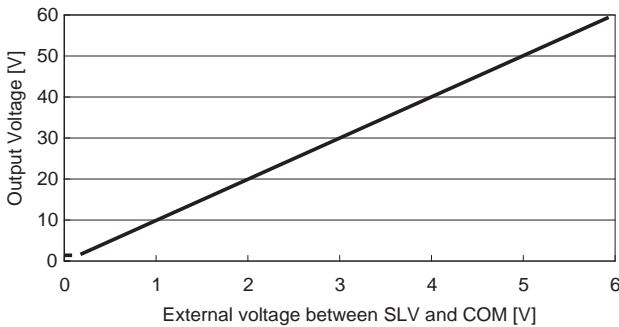

Fig.5.1 Relationship between the voltage of the terminal SLV and the output
■Output voltage is accordance with Fig.5.1 against the external voltage.